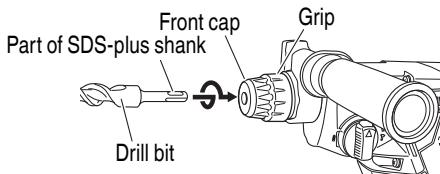

Fig. 7
### 3. Mounting the drill bit (Fig. 7, 8)
- (1) Clean the shank portion of the drill bit.
- (2) Insert the drill bit in a twisting manner into the tool holder until it latches itself. (Fig. 7)